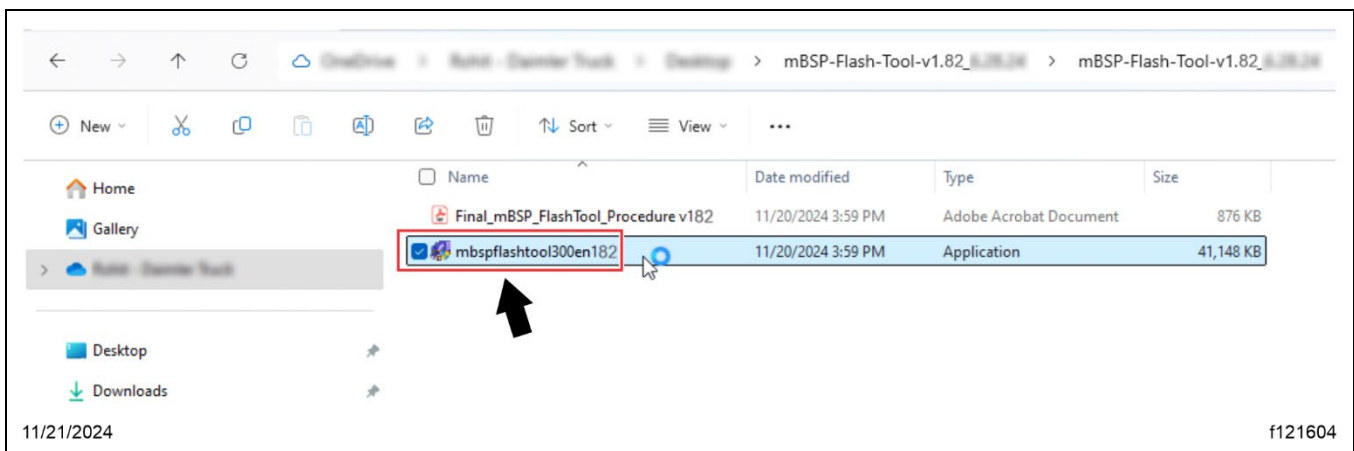

Fig. 29, Launching the Application File
7.1. Double-click to run the 'mbspflashtool300en185.exe' application file. See Fig. 29.